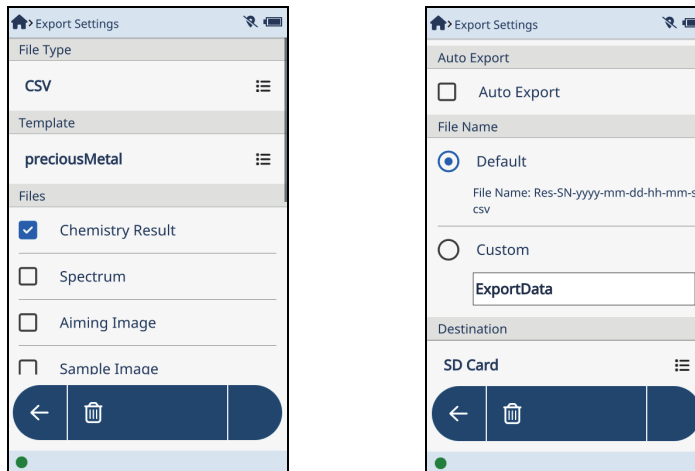

Figure 2-34 Export Settings screen top (left) and bottom (right)
- ◆ Tap the **Export Settings** button () [either in the Menu Tray or on the **Live View** screen, if available] (See Figure 2-34 on page 50).